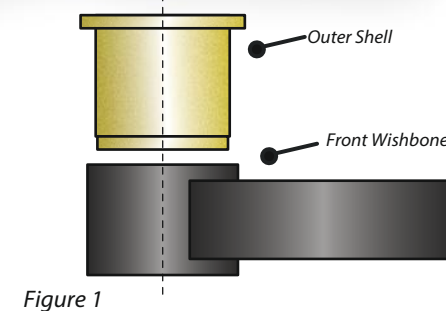

Figure 1
3. Press the outer shell into the arm as shown in Fig 1. Make sure the shell is square to the arm and it is pressed in with the leading edge first until the flange of the shell is flush with the chamfered portion of the arm.